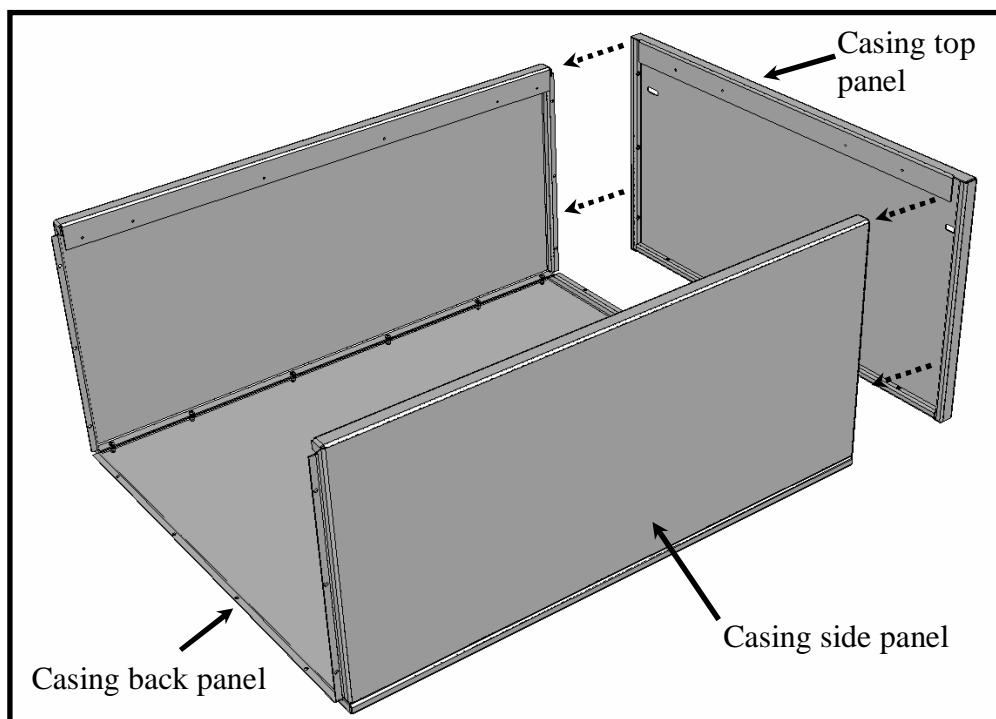

Figure 19 – Casing assembly
- c) Place top panel (top and bottom are interchangeable) on back and sides as shown in *Figure 19.*